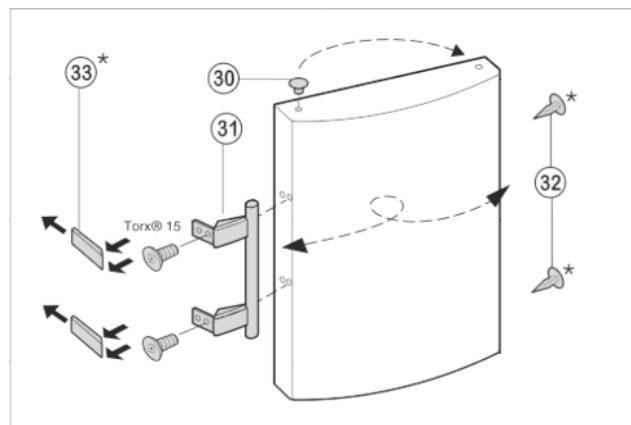

Fig. 7
- Lift the plug Fig. 7 (30) out of the door bearing bush and re-locate.
- Dismantle the door handle Fig. 7 (31), plug Fig. 7 (32) and pressure plates Fig. 7 (33), and re-locate to the opposite side.